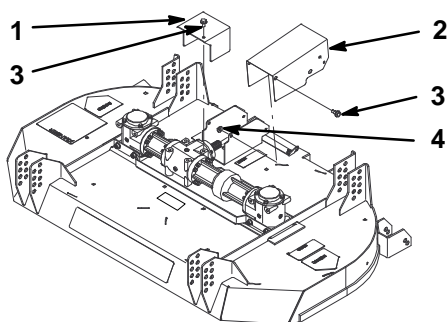

Figure 31
2. Remove two shields that cover gearbox and PTO shaft (Fig. 31).